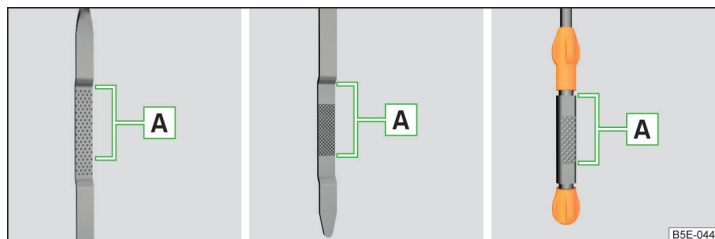

Fig. 187 Principle sketch: Dipstick
Dipstick » Fig. 187
- The oil level must never be above the **A** range » Fig. 187 - there is a risk of damaging the exhaust system!